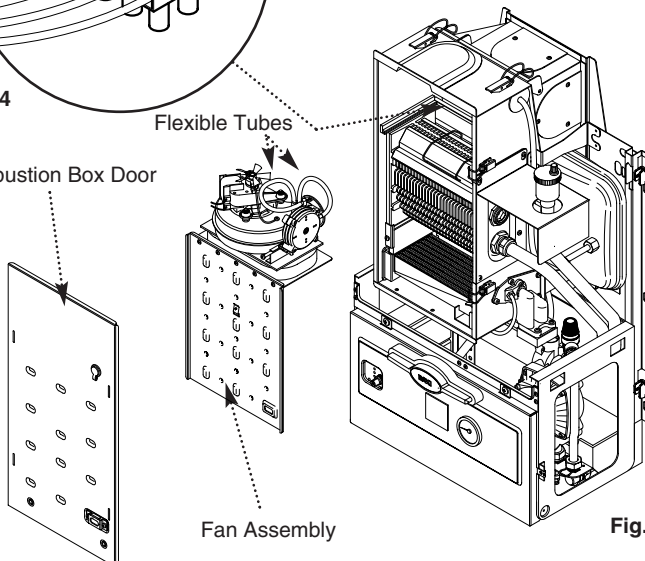

Fig. 95
7. Release the four latches retaining the combustion box door and remove the door (Fig. 95).
8. Release the 5-pin electrical plug connecting the pressure switch and fan (Fig. 94). Withdraw the fan assembly by pulling forwards from the top edge (Fig. 95).
7. Replace all components in reverse order **ensuring that the flexible tubes from the fan unit to the pressure switch are routed correctly and that they are not kinked or flattened** (Fig. 95).